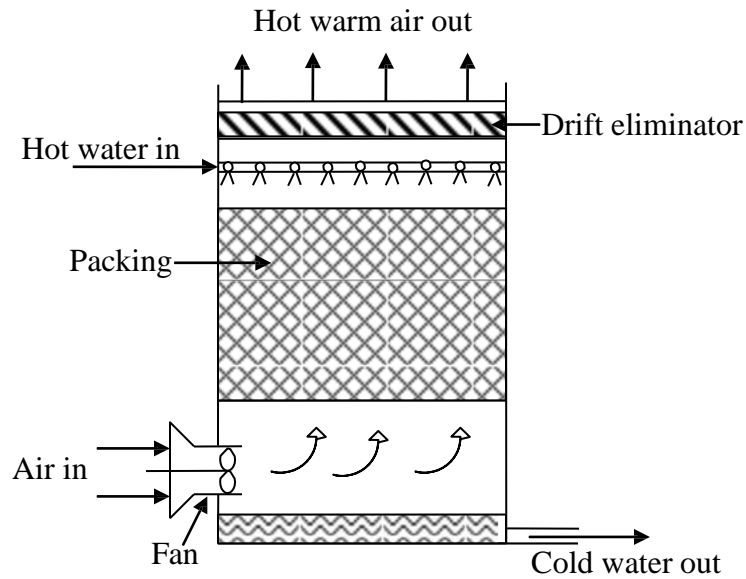

Figure 3: Schematic of forced draft towers.
**Forced draft towers:** It can be seen from Figure 3 that it has one or more fans located at the tower bottom to push air into tower.